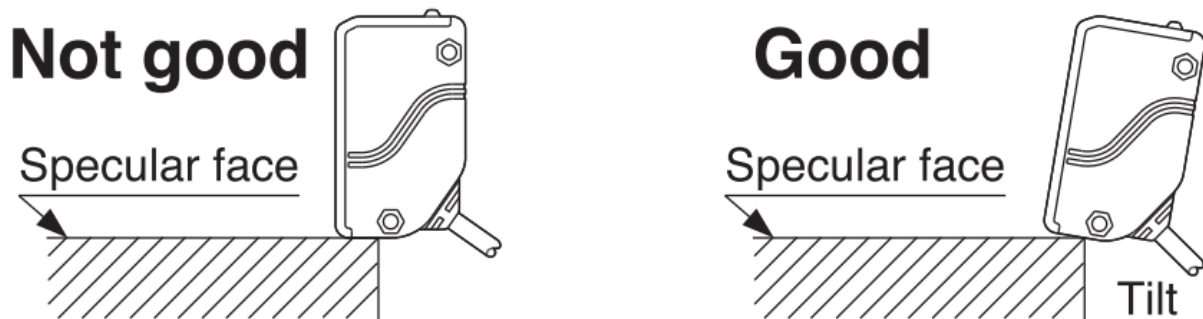

Figure 4 - 1
When detecting a specular (mirror-like) object, such as aluminum or other reflective surface, or an object having a glossy surface or coating, the object may not be seen by the sensor due to a small change in angle or wrinkles on the objects surface. When a specular object is present below the sensor, tilting the sensor slightly upwards will increase its ability to see the object. See Figure 4 - 1.
**Adjusting Procedure:** Use the diagrams for adjusting the sensor. (See Figure 4 - 2 and Figure 4 - 3). Turning adjustments screws with excessive force will cause damage to the adjuster. The sensor operates in an industrial environment and is likely to accumulate dust on the sensory lens. Be sure to clean the lens when performing other maintenance to the system.